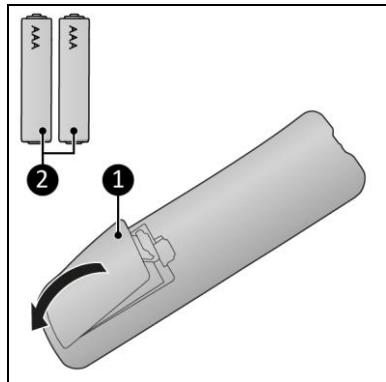

Figure 15
1. Remove the cover (Figure 15, pos. 1).
2. Insert two batteries (AAA 1.5V) (Figure 15, pos. 2) in the battery compartment. Make sure to insert the batteries correctly.